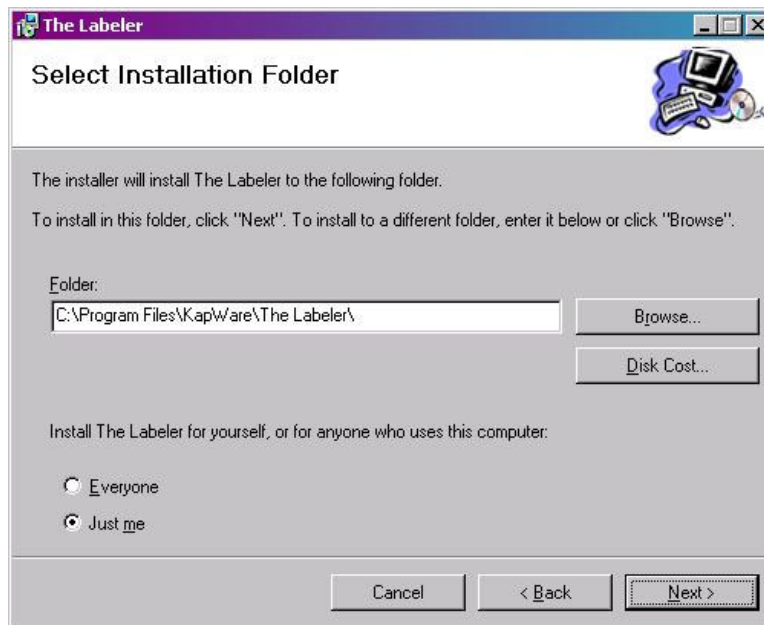

Figure 2.1.3: Installation Path Screen
2. Press the next button and this will take you to the installation path screen (see Figure 2.1.3).